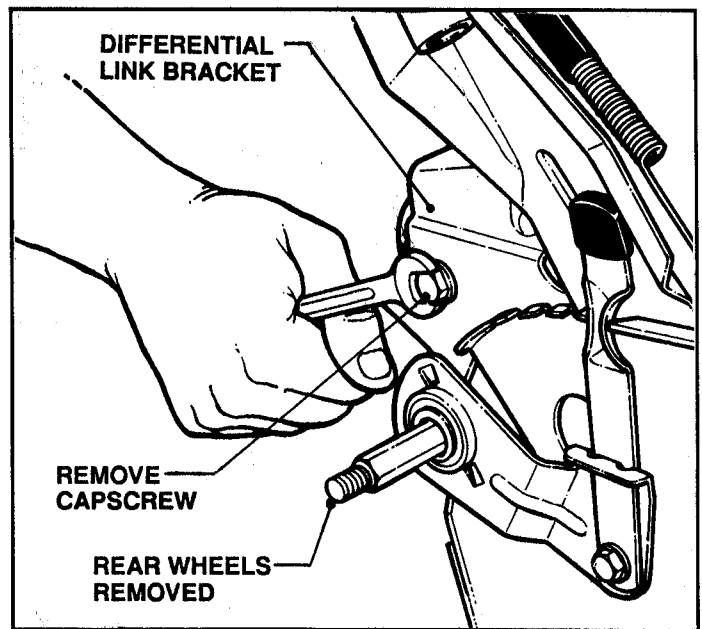

FIGURE 4.1
1. Remove capscrew securing differential link bracket. See Figure 4.1.